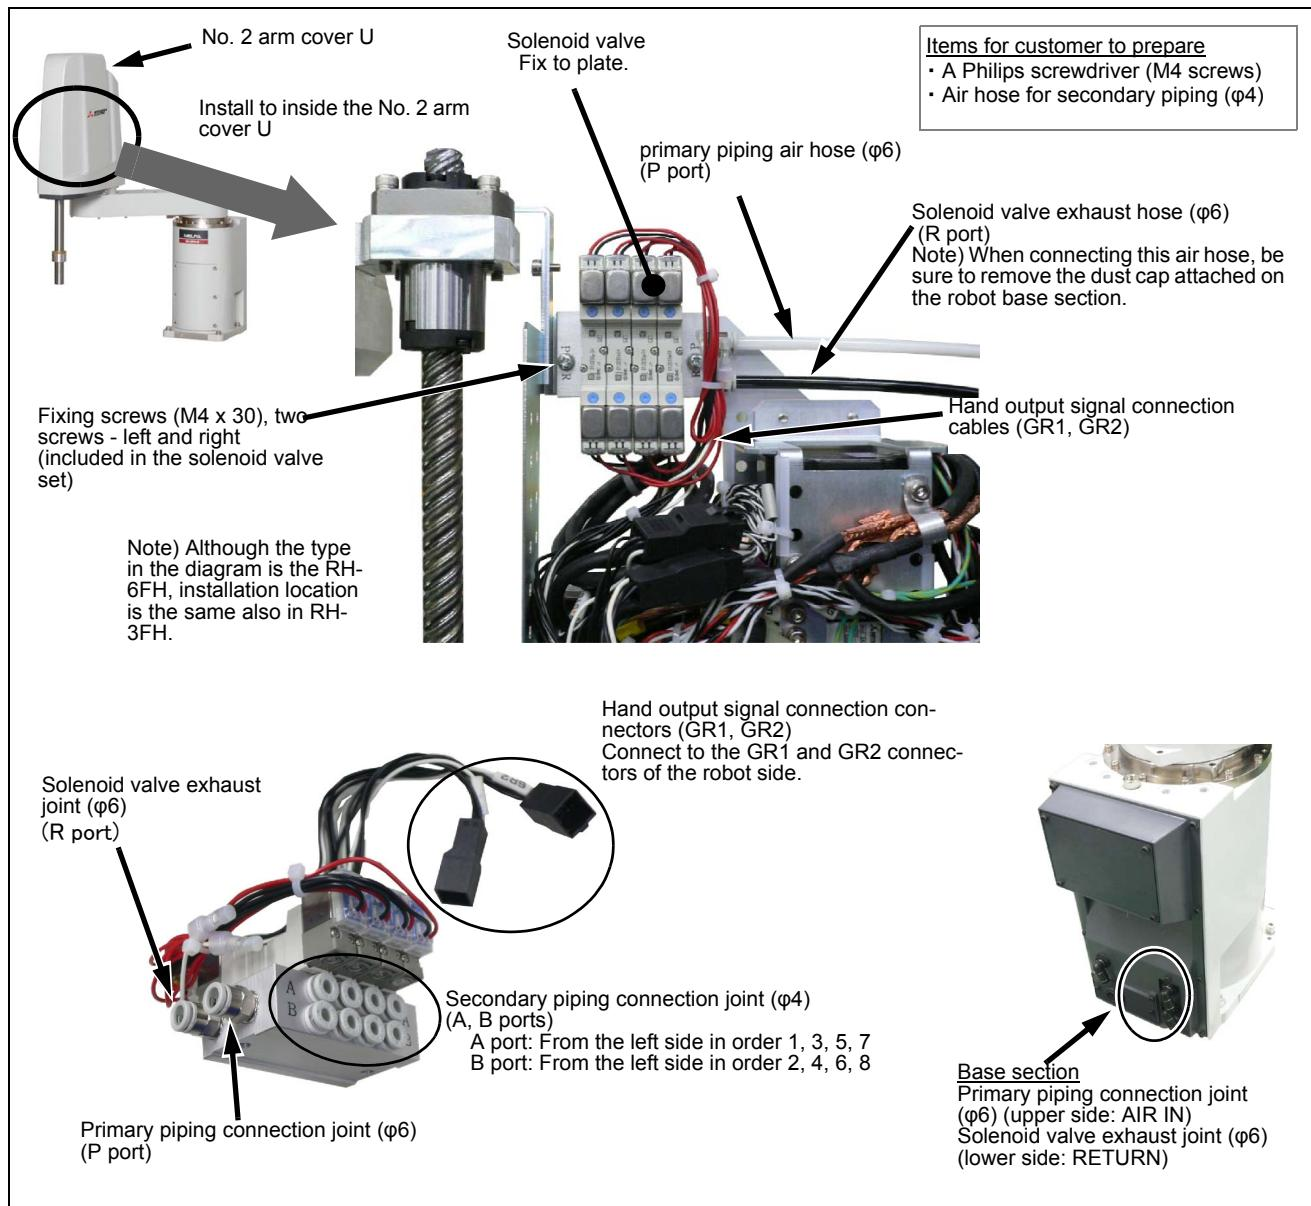
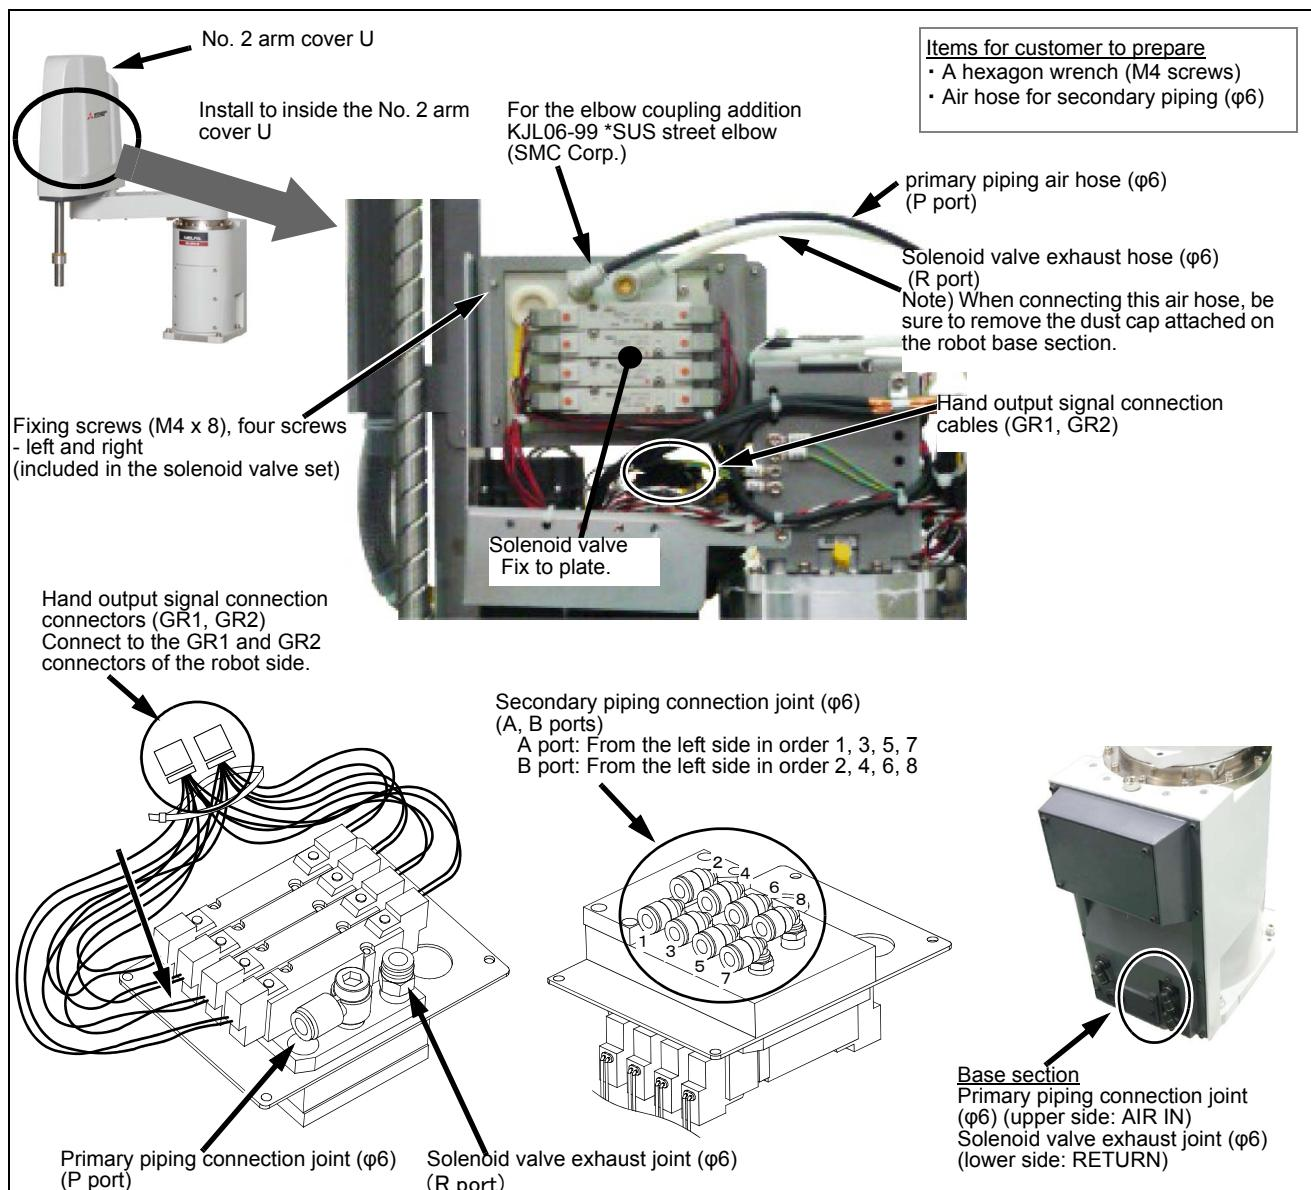

Fig.3-1 : Solenoid valve installation procedures (RH-3FH/6FH)
Fig.3-2 : Solenoid valve installation procedures (RH-12FH/20FH)
The installation summary of the solenoid valve is shown in Fig. 3-1 and Fig. 3-2. Remove the No.2 arm cover U, and install the solenoid valve on the No.2 arm. Turn the controller's power OFF before this installing operation. Refer to Page 79, "5.3.2 Installing/removing the cover" for removing/ installing the cover.
- 2) Fix the solenoid valve to the plate in the position indicated in Fig. 3-1. Place it so that the solenoid valve's primary piping connection joints (P, R ports) are located on the right hand side, and fix it securely using the M4 screws included (tightening torque: 1.39 to 1.89N · m).
- 2) Fix the solenoid valve to the plate in the position indicated in Fig. 3-1. Place it so that the solenoid valve's primary piping connection joints (P, R ports) are located on the upper side, and fix it securely using the M4 screws included (tightening torque: 1.39 to 1.89N · m).